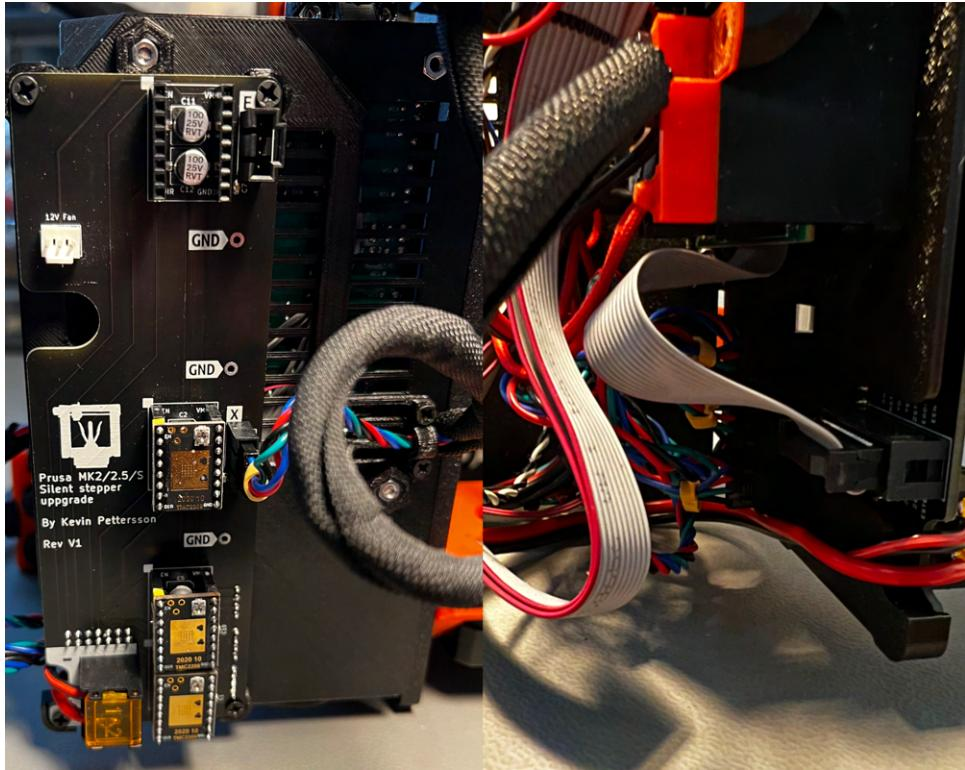

Figure 10: View of front and back of **XYZE** upgrade board for X, Y and Z installation, NOTE depicted image is of V1, V1.1 looks slightly different.
You can now mount the upgrade board with 4 of the included threaded screws. You can then install the power cable in the correct orientation, motor cables, data cable, X-axis strain relief and stepper drivers. I suggest installing the drivers without heat-sink as it will be easier to adjust the Vref later. The result at this stage should look like Figure 10.
5. Lastly, add the cable to the cable sleeve and connect it to the LED port located next to the X-axis motor connector, as depicted in Figure 10. Please note that you should use the larger strain relief holder on the upgrade board and double check that the red wire is towards the + sign on the board.